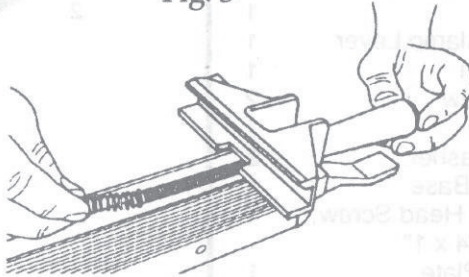

Fig. 5
3. Place the spring (18) on the shaft of the handle, as shown in Fig. 5.